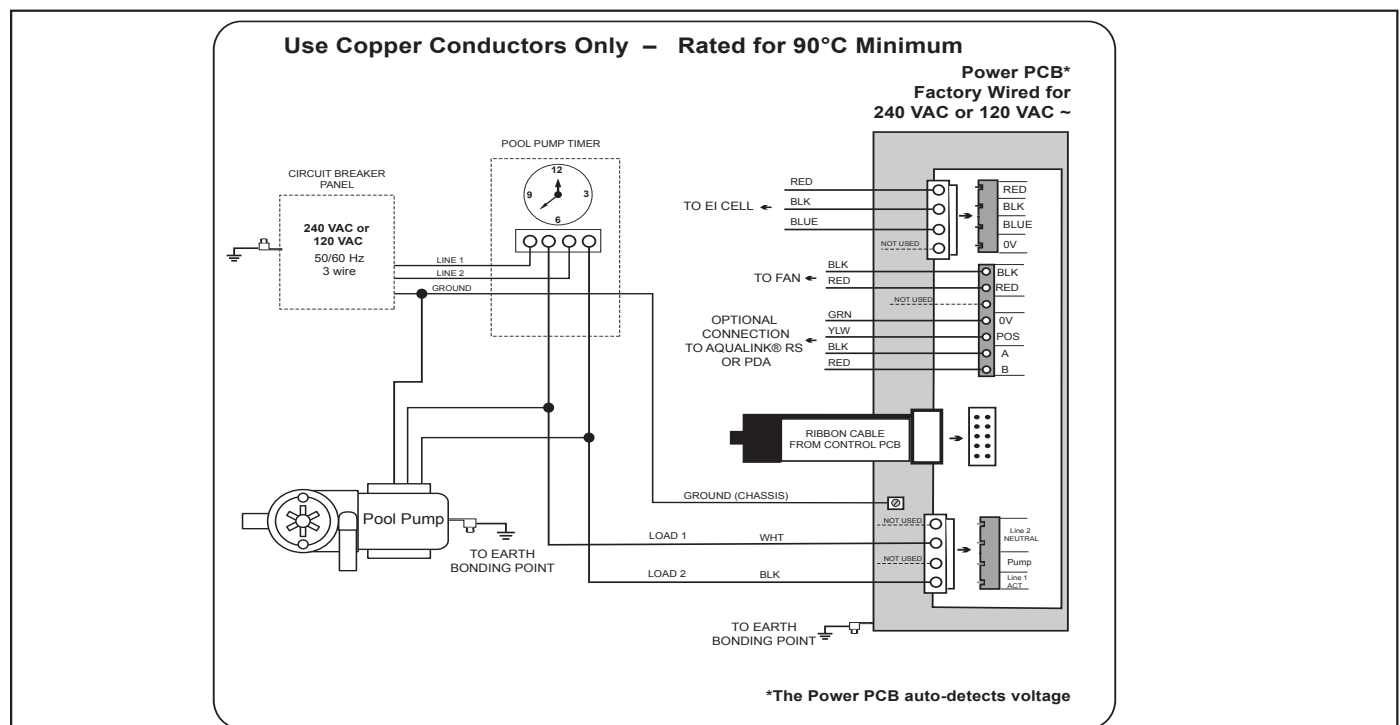

Figure 18. 240 VAC or 120 VAC Wiring Diagram
1. Wire power pack to pool pump power source using #12 AWG (3.0 mm²) insulated wire and conduit. The power pack should be connected to the pump motor switch or automatic timer (pool pump timer) as shown in Figure 18.